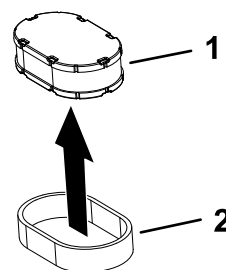

Figure 34
5. Separate the foam and paper elements (Figure 34).